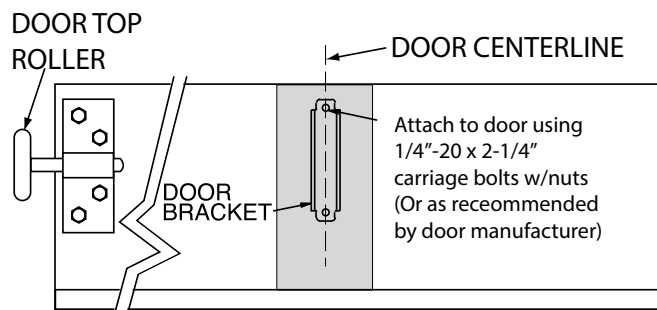

FIG. 11
2. Position the door bracket on the door as shown in FIG. 11, with mounting holes on the door centerline. (Even with or above top door roller).